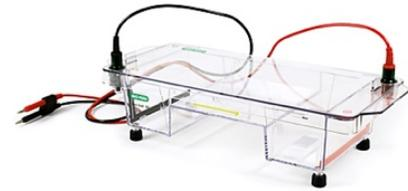

Figure 2. Bio-Rad Sub-Cell GT Cell [2]
3. Put tray into Bio-Rad Sub-Cell GT Cell (Figure 2)